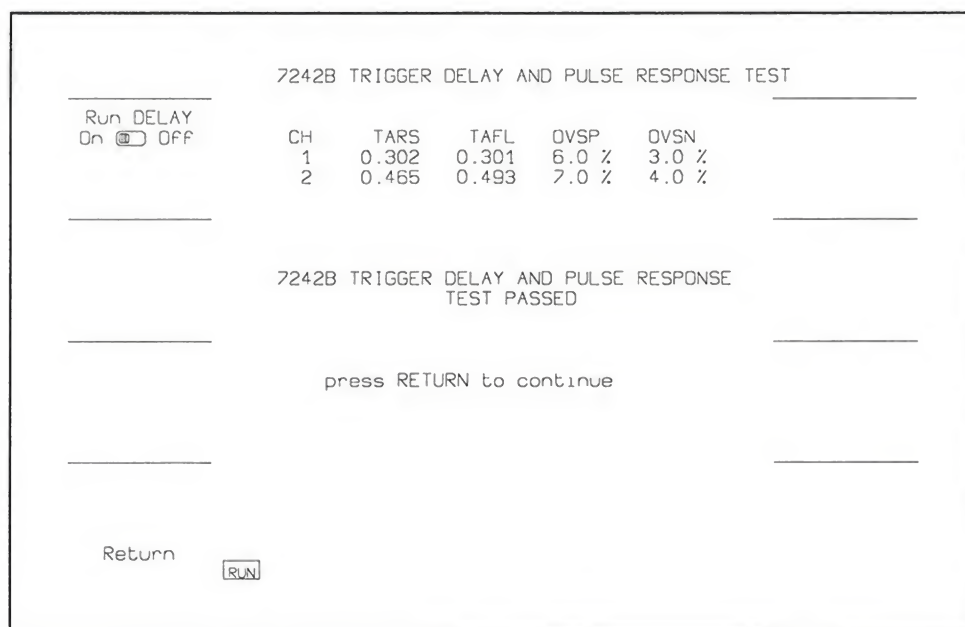

Fig 2.10
- Connect a 10 KHz, 700 mv p-p square wave with a rise time of less than 1 ns to the channel 1 input. If the selected LOG TYPE is either Printer or Floppy then the trigger delay data will be collected automatically. If NO LOG was selected, when the test is complete the results will be displayed on the screen as in Fig 2.10. Record these results in Table 2.6. Follow the displayed instructions.
- If NO LOG was selected the results will be displayed on the screen as in Fig 2.10. Record these results in table 2.6.